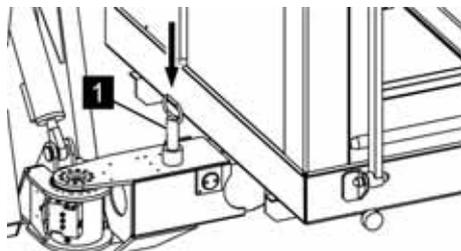

Fig. 87: Inserting the fastening bolts
8. ➤ Push the fastening bolts in (Fig. 87/1) completely. Make sure that the working basket can no longer be pulled out of the bracket.